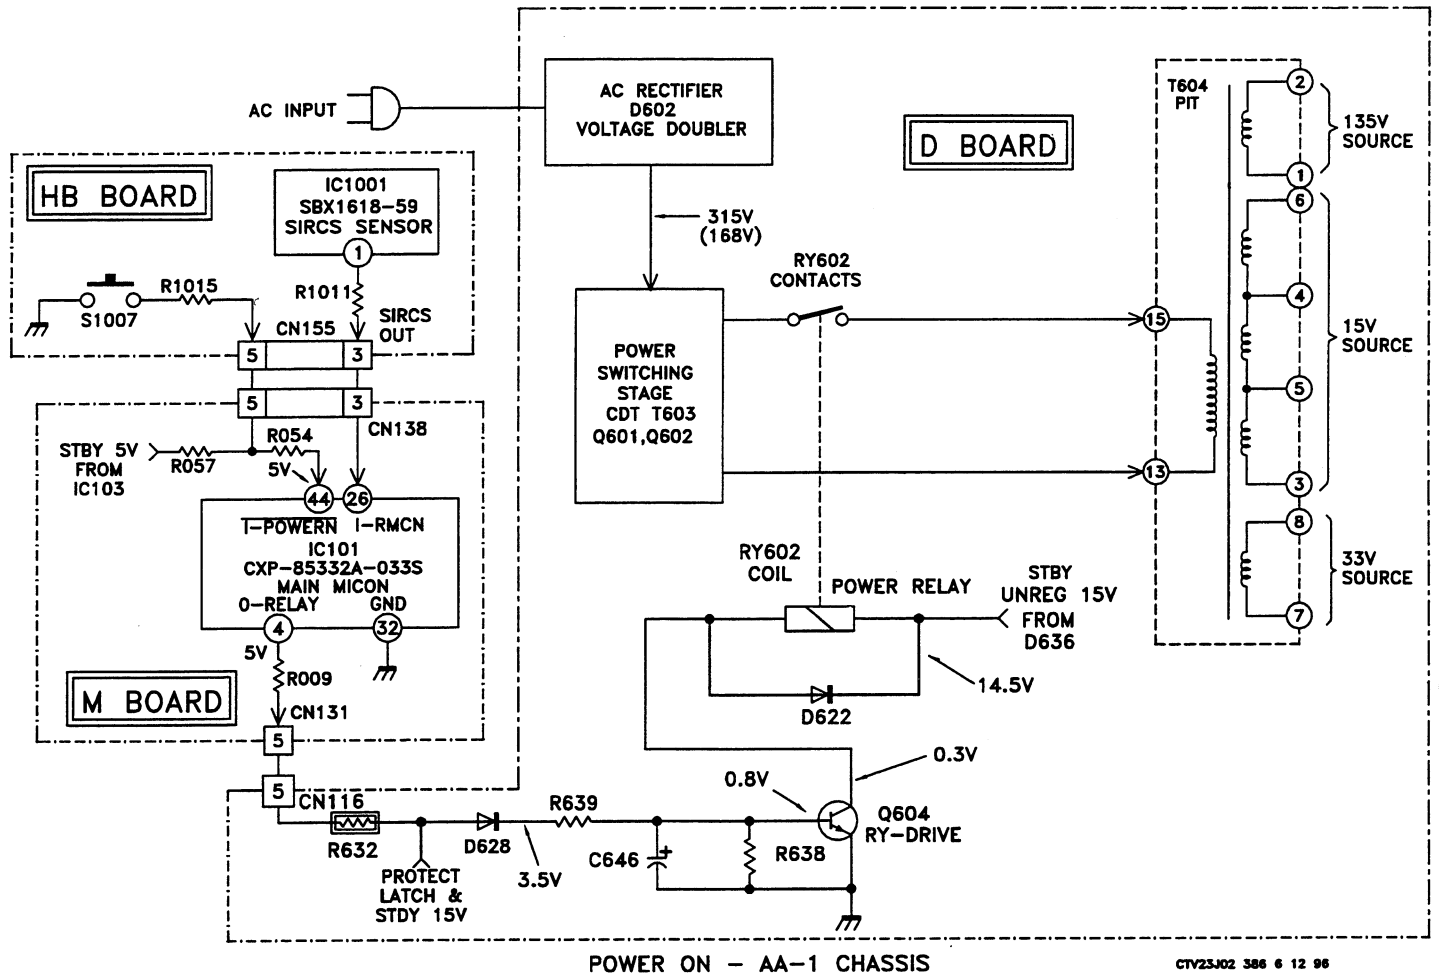

Figure 2
Figure 2 shows a block diagram of a typical power supply for one of our direct-view television power supplies. This example is from the AA-1 chassis and can be found in the CTV23 training manual (part # CTV230996-1). Other similar designs include the AA-2 and earlier LN-1 chassis. These supplies oscillate immediately upon supplying AC power. The oscillator not only drives the television's main secondary supplies, but the standby transformer as well. Note that the main transformer
**Tip:** Another culprit (particularly with the AA-1 chassis) are the VDRs (VDR601, 602 and 603) located in the oscillator and standby circuits. AC line transients easily damage them. They should be replaced anytime a power supply is serviced for switching transistor failure. Loads in the standby supply will usually open fuse resistors protecting that particular line. In the sample drawing of figure 2, an open R644 indicates a defective VDR 601 and an open R636 indicates a shorted IC610 regulator. The standby transformer T605 should also be visually inspected for overheated windings and replaced if necessary. Any one of the above mentioned components will knock out the switching transistors. These are actual failures I have seen on this chassis. Anytime shorted switchers are replaced and open fuse resistors are found in the standby or secondary circuits, be very careful.